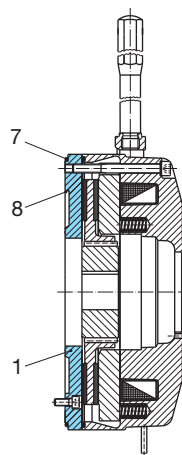

Fig. 3
- Customer-specific flange plate, Fig. 3
We offer a range of flange plates for customer-specific solutions, such as for example the special flange plate shown in fig. 3 (1) with customer-specific centering (8) and sealing (7).